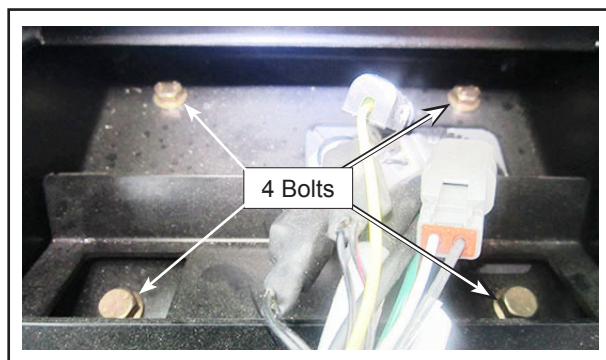

Figure 4 - Farebox Radio Bolts
2.1. Remove the farebox radio (four bolts). See Figure 4.